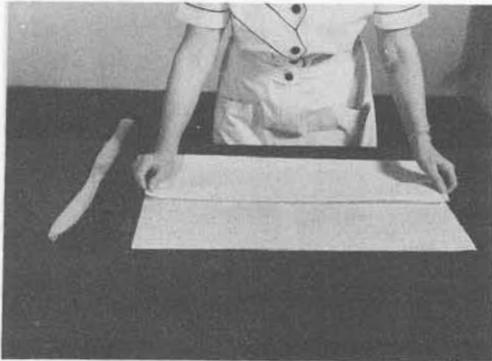

Fig. 1 - Place the cloth on a flat surface and fold over about one-third of the cloth on itself. Slip a rubber band (#30 - 2 x 1/8 inches) over the tool handle.
4.01 Exhibit A, Figs. 1 to 6, illustrates how the treated cloth and tool are assembled for dusting.